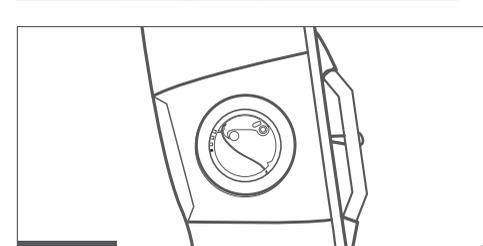
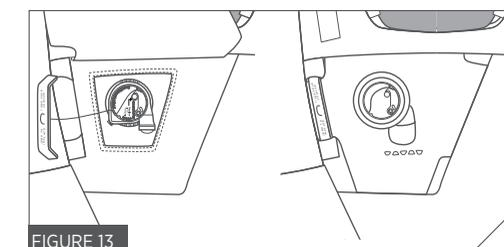

FIGURE 12
FIGURE 13
18. If your PFD has model number **MD5283** or **MD5253**, pass the pull handle through the button hole, taking care not to pull the lanyard and inadvertently inflate the PFD. For models **MD5283** and **MD5253** see (Fig. 12). For **MD6284** and **MD6254** see (Fig.13).
20. If your PFD has model number **MD6284** or **MD6254**, tuck in the tabs of the front flap (on three sides) Close front flap over the inflation equipment (with window and molded rubber cover fitted in place) and press the Velcro™ strips together (Fig. 13).